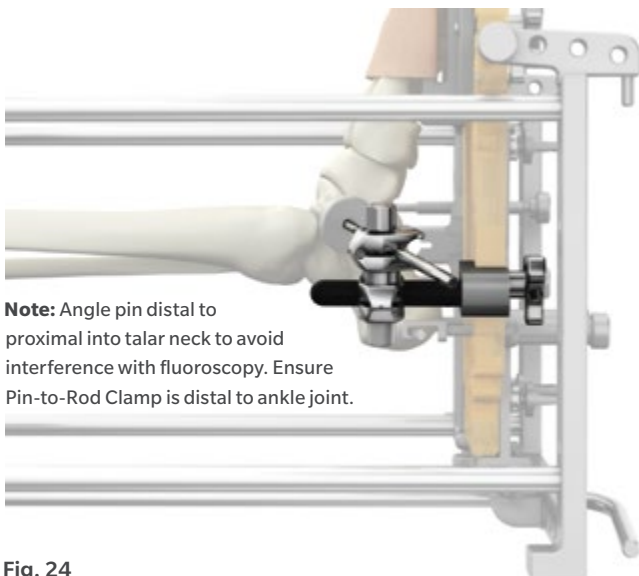

Fig. 24
- Drill the 4.0 mm Pin through the clamp and the Drill Sleeve into the incision at the talar neck, achieving unicortical fixation (Fig. 24).